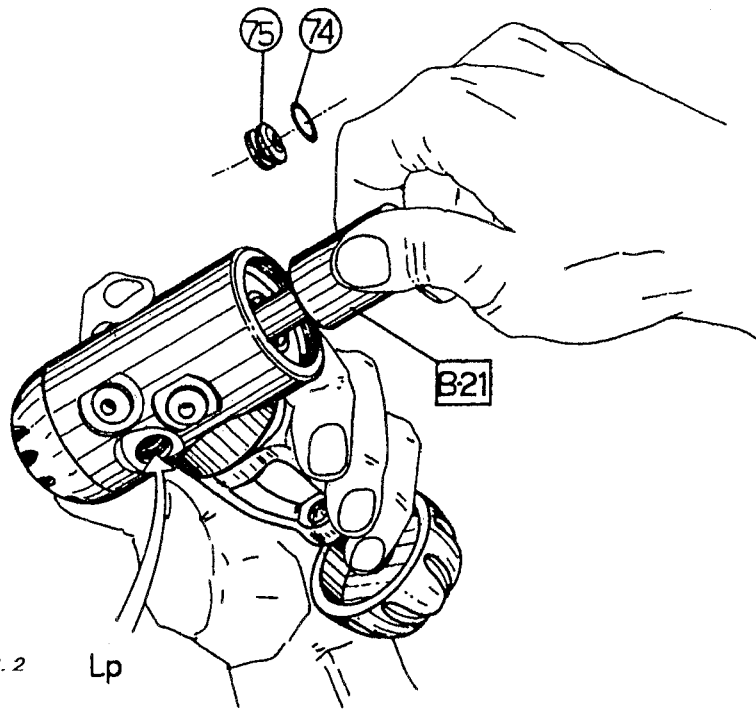

FIG. 2 Lp
6. Position the special tool (B-21) on the first stage poppet seat (75), exerting a slight pressure; pressurize one of the low pressure ports with compressed air (below 7 bar). (Fig. 2)